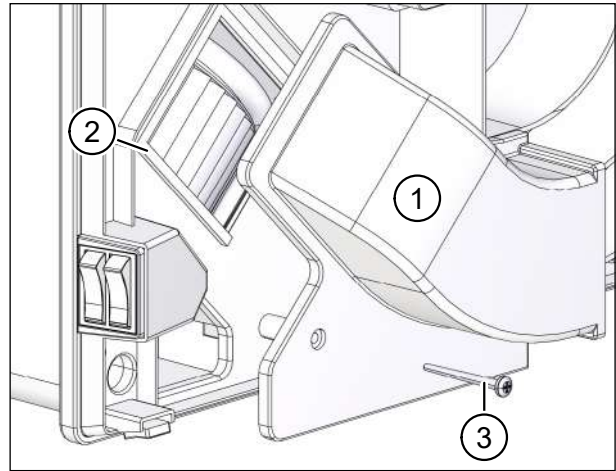

Fig. 44: Fixing the supply air hood
- ▶ Push the supply air hood (item 1 in Fig. 44) into the slotted guide (item 2 in Fig. 44). Push until you hear the latches snap into place.
- ▶ Use the screw (item 3 in Fig. 44) to fix the supply air hood.